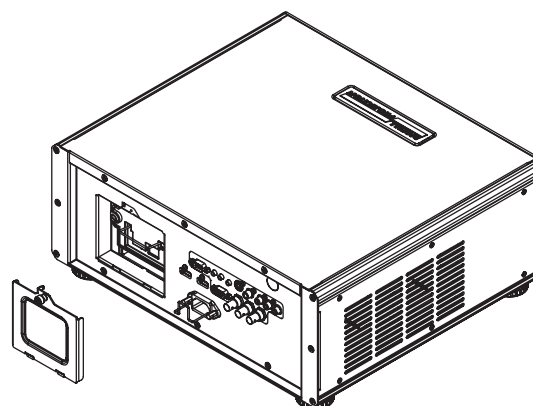

Fig. 1 Removing the lamp door
2. Unscrew the captive finger screw securing the lamp door, and remove the door (**Fig. 1**).